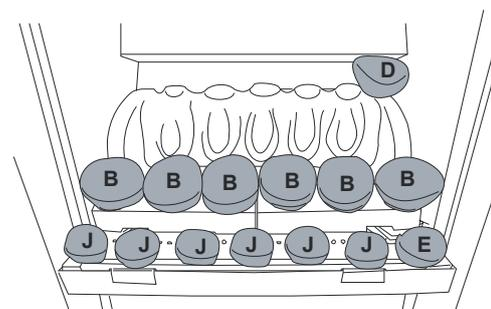

Figure 36
4. Insert the **J & E** pebbles centrally onto the spikes and place the **B** pebbles on the middle matrix ensuring the same orientation as shown in **Figure 36**.